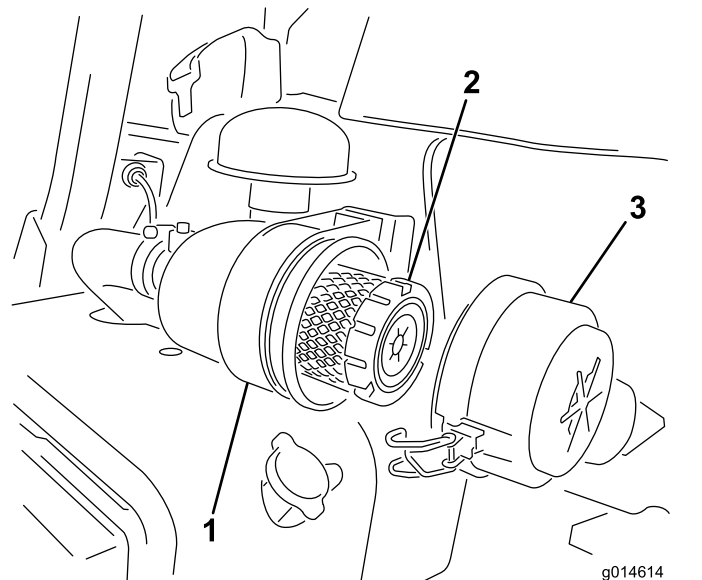

Figure 30
1. Release the latches securing the air-cleaner cover to the air-cleaner body (Figure 30).
- Secure the latches (Figure 30).